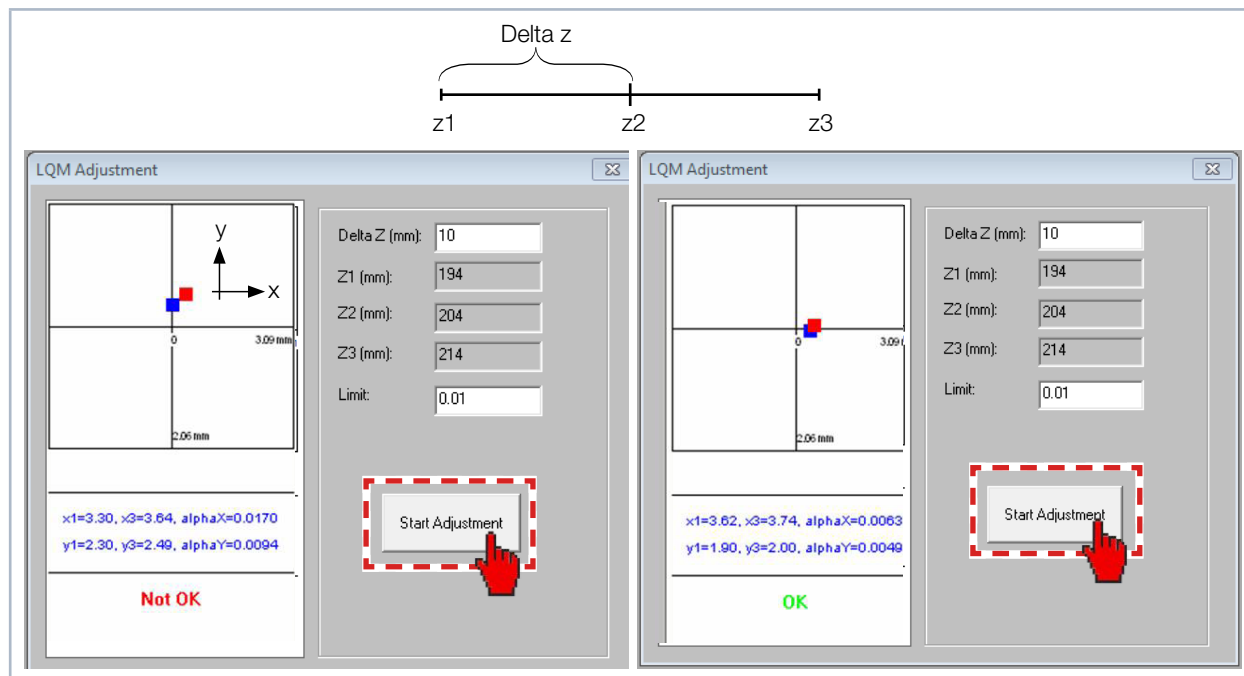

Fig. 13.5: Checking the alignment with the LaserDiagnosticsSoftware LDS
3. Check if the beam has an angular deviation (see Fig. 13.5 on page 95):